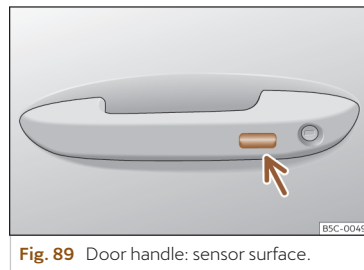

Fig. 89 Door handle: sensor surface.
- **OR:** using the Keyless Access system (only locking): Press and hold the locking sensor surface >>> **Fig. 89** (arrow) on the door handle for several seconds to close the windows and the sunroof. If you stop touching the sensing surface, the locking function is interrupted.
Press and hold the locking sensor surface >>> Fig. 89 (arrow) on the door handle to close the sunroof. If you release the sensor surface, the closing movement stops.